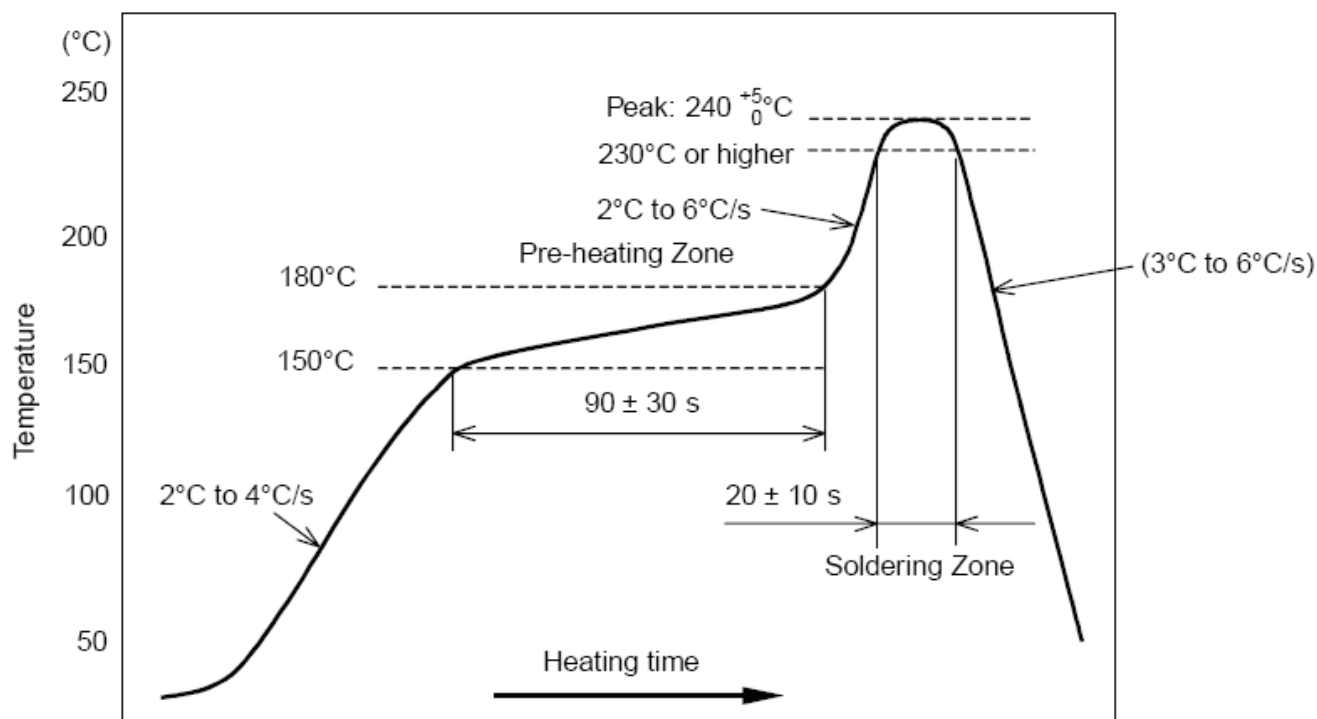

Figure 11-1. Temperature Profile for Evaluation of Solder Heat Resistance of a Component (at Solder Joint)
- Temperature measurement: Thermocouple $d = 0.1\text{ mm}$ to 0.2 mm CA (K) or CC (T) at soldering portion or equivalent method
- Allowable reflow soldering times: 2 times based on the reflow soldering profile (see Figure 11-1)
- Temperature profile: Reflow soldering will be done according to the temperature profile (see Figure 11-1)